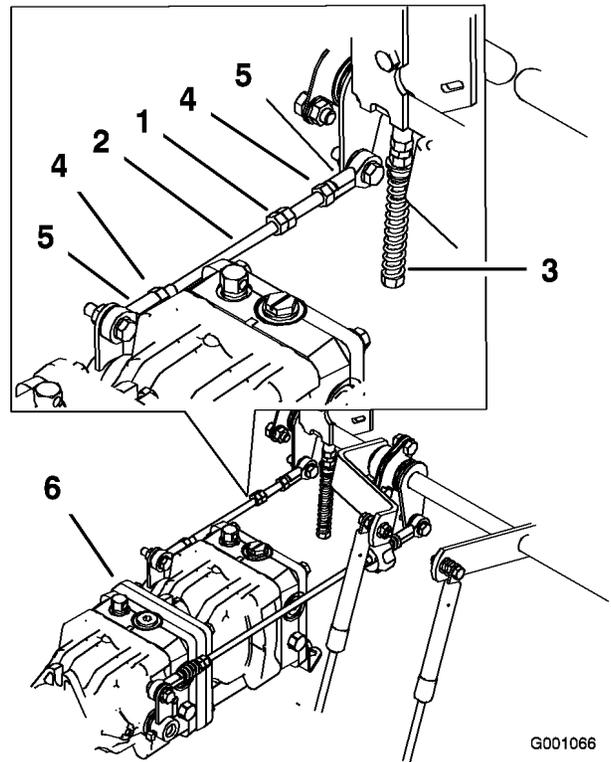

Figure 70
6. Tighten the locknuts at the ball joints (Figure 70).
1. Loosen the locknuts at the ball joints on the pump control rod (Figure 70).
3. Adjust the pump rod length by rotating double nuts on rod, in the appropriate direction, until wheel is still or slightly creeps in reverse (Figure 70).